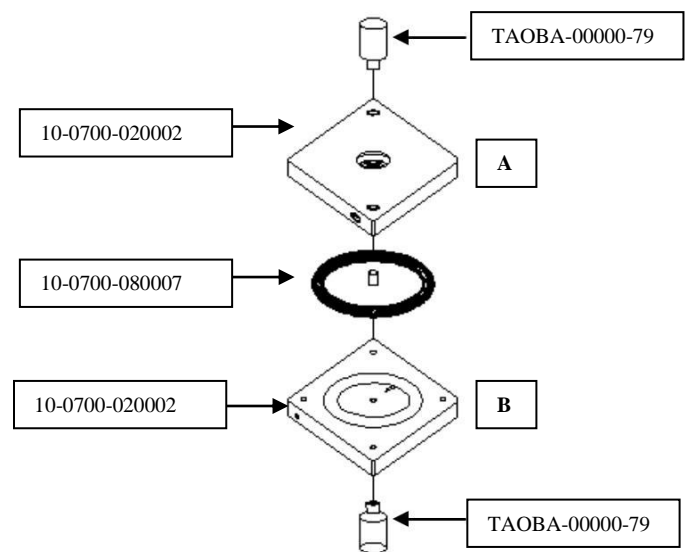

Figure 9
1.0. BALANCING BLOCKS DISASSEMBLY/REASSEMBLY PROCEDURE (FIGURE 9 and 10)